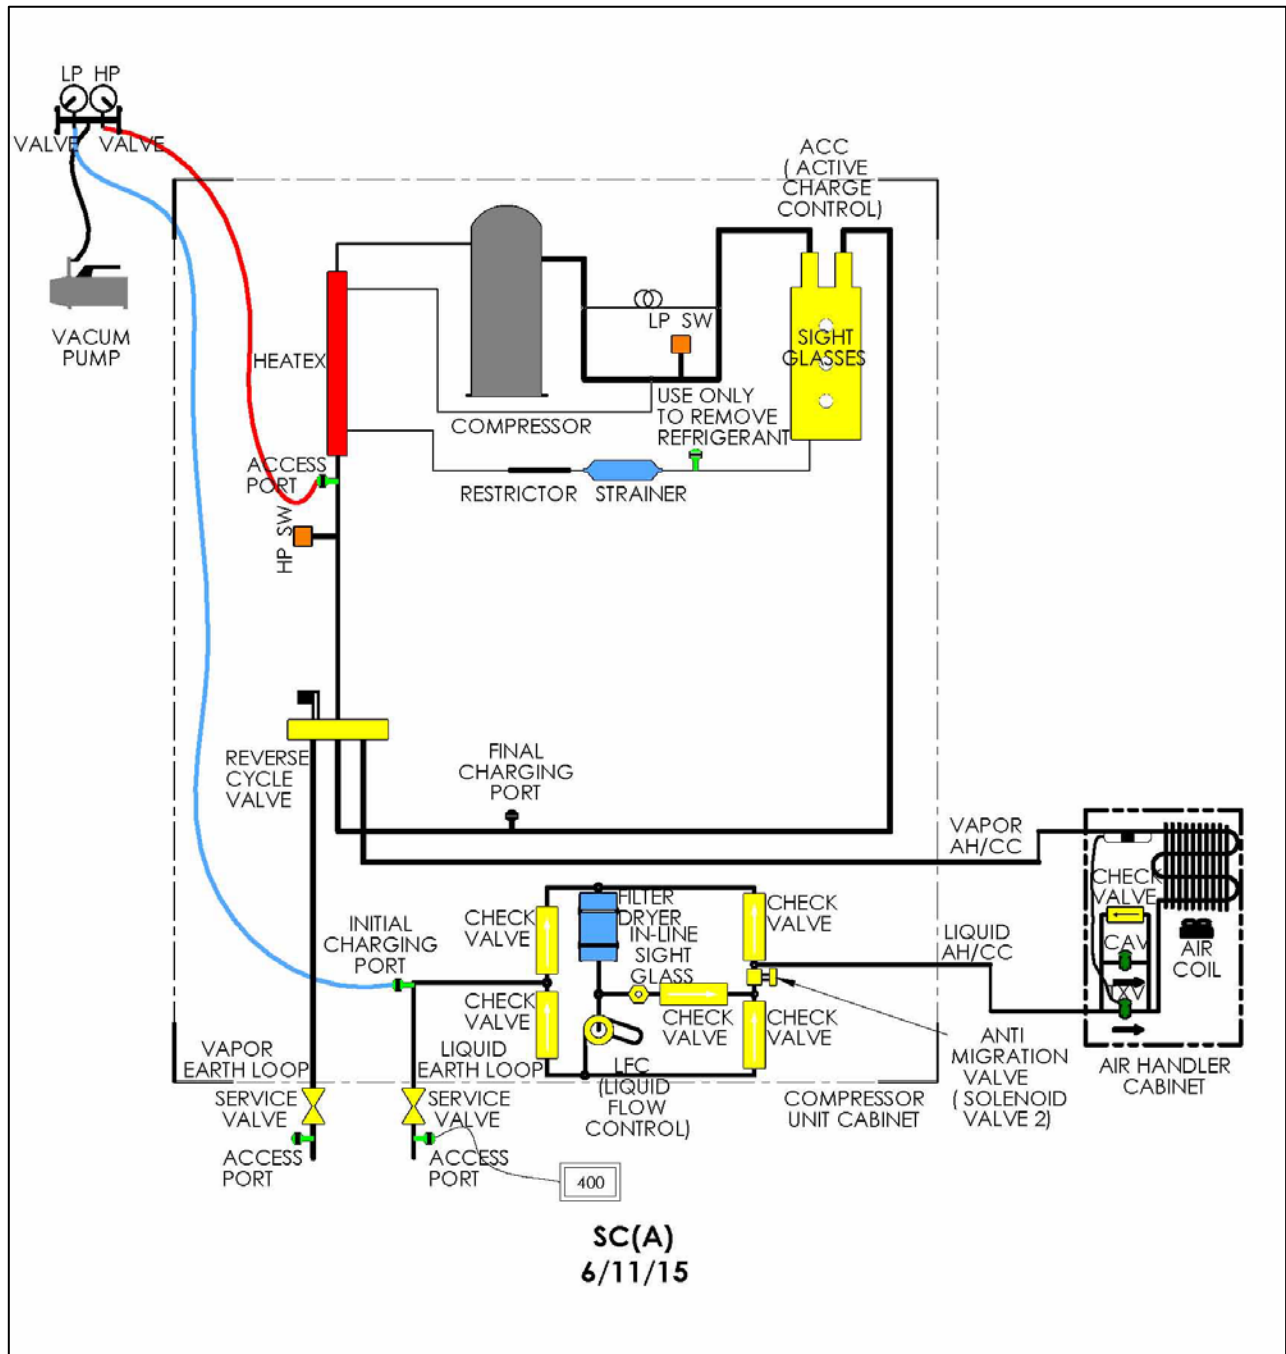

Figure 26. Evacuation of SC(A) System
Refer to Figure 26 and the following procedure:
2. After venting the pressurized system, a good quality gage manifold and a non-permeable hose set as shown in Figure 26. If possible, use two Schrader core removal tools. Install one on the discharge line access port and the other on the initial charging port. Removal of the Schrader cores will reduce the time to achieve the desired vacuum.
3. Attached a good quality digital vacuum gage with an isolation valve to the liquid line service valve access port as shown in Figure 26.
5. Fully open the LP and HP valves and both service valves. Reference Figure 26.